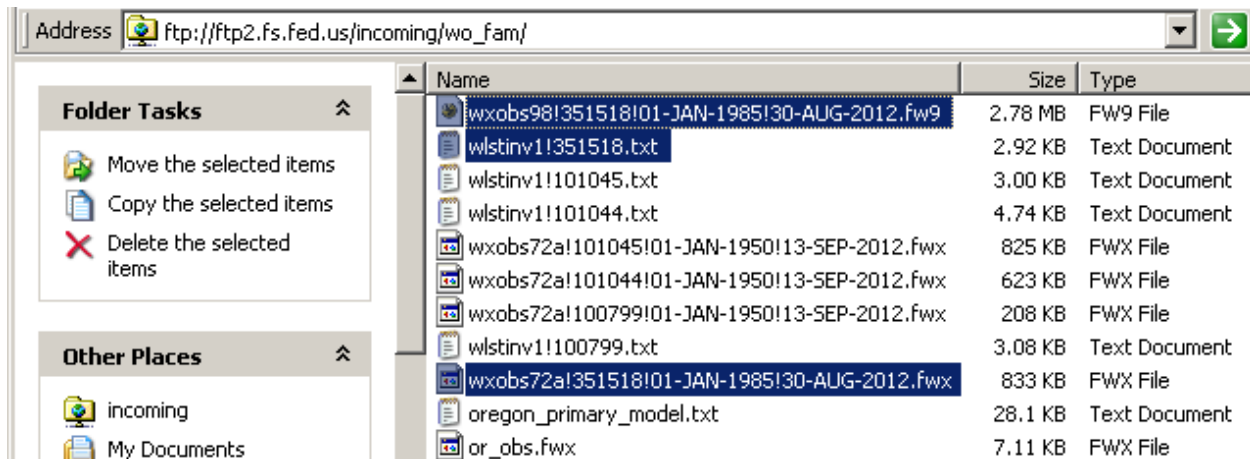

Figure 3-7—Data on the FAMWEB ftp site, with the files for the Eden RAWS highlighted.
- 2) Open a new Windows Explorer window and type the ftp address (ftp://ftp2.fs.fed.us/incoming/wo_fam/) in the *Address* bar then click the **Go** button (white arrow in the green box) to the right (fig 3-7). It is easier to find the files requested using Windows Explorer than the ftp site through Internet Explorer because you can sort the data.
If your windows explorer window does not look like figure 3-7, change the view to “Detailed.” Windows XP main menu bar →View →Detailed, Windows 7 change view icon →Detailed.